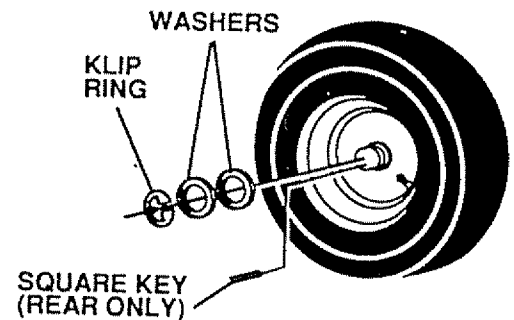

FIGURE 42
- d. Removing wheel for tire repair (Fig. 42).